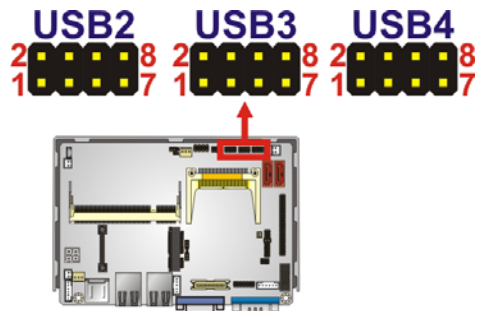

Figure 3-12: USB Connector Pinout Locations
- CN Location:** See **Figure 3-12**